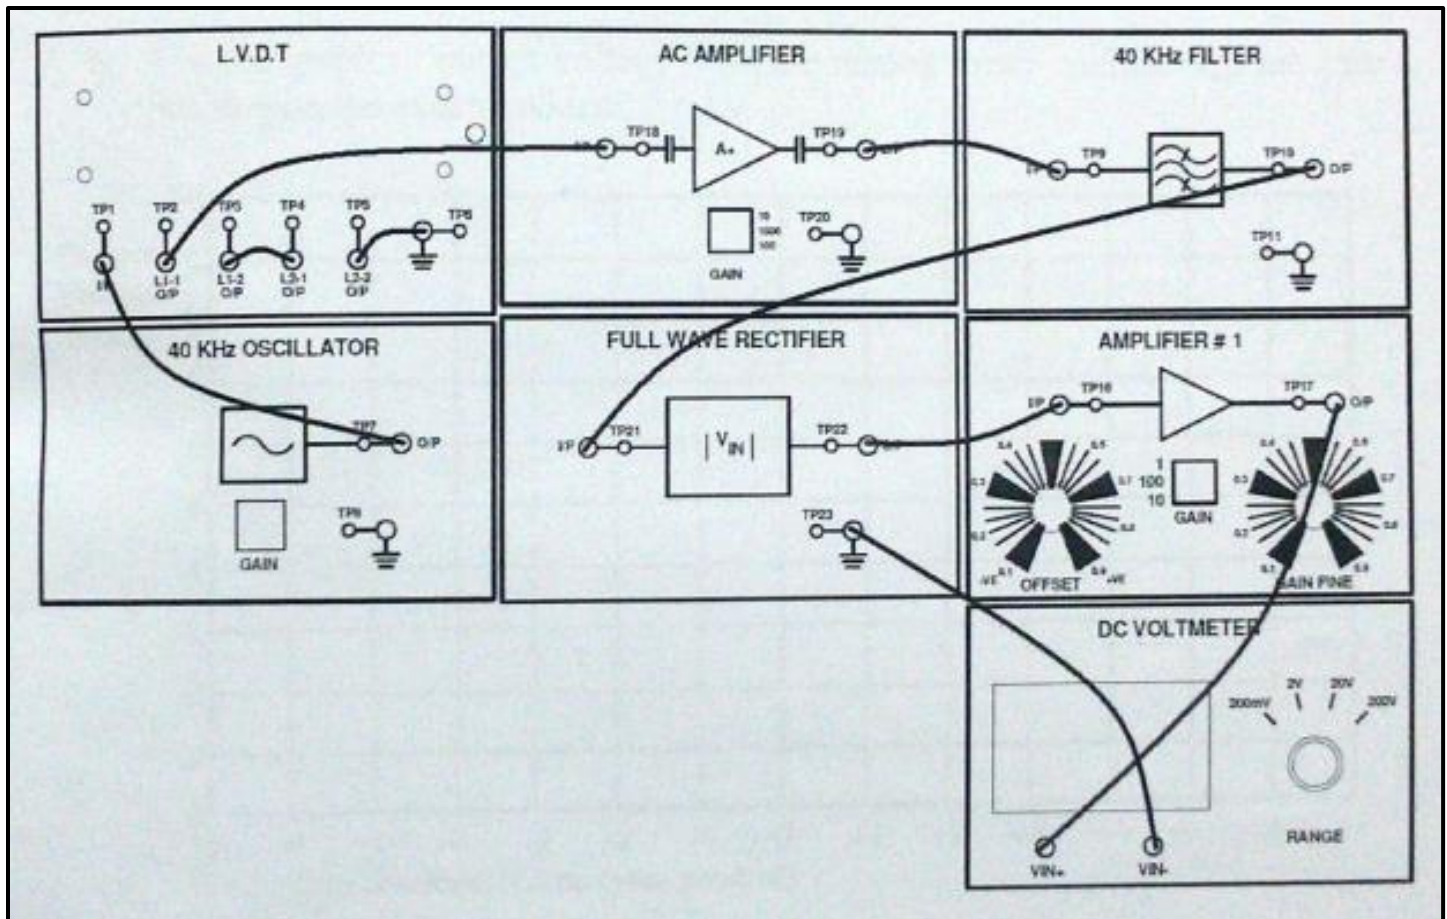

Figure 8.5 (Experimental Setup)
Refer to figure 8.5 to configure setup for the present experiment.
- Connect the circuit as shown in the figure 8.5.